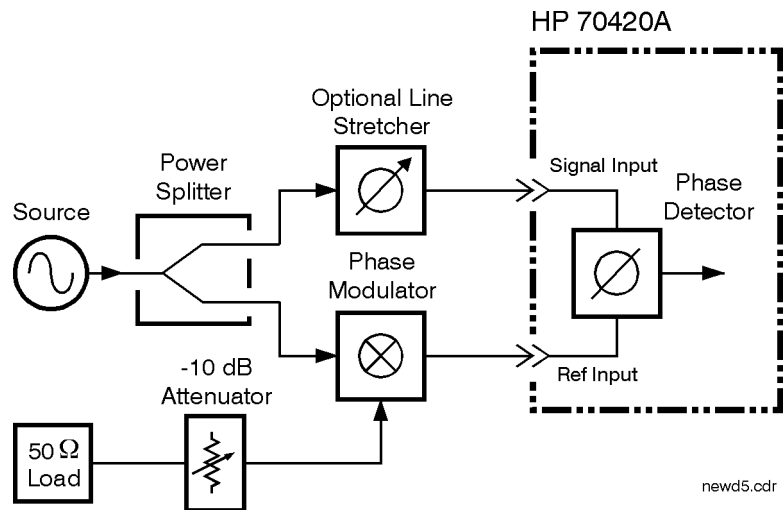

Figure 8-14 Calibration Setup
- 1 Connect circuit as per Figure 8-14, and tighten all connections.